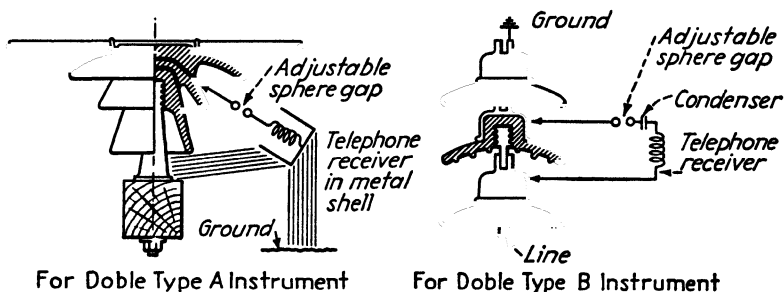

FIG. 21-11. Electrical circuit for Doble type A and type B testing instruments. (Courtesy Oregon State Engineering Experiment Station, Reprint Series No. 1.)
**Principle of Operation.** Testing by this method also consists in measuring the voltage across each shell of a pin insulator or across the individual units of a suspension string. The electrical circuit for this purpose is made up of an air gap connected in series with a resonated circuit. Figure 21-11 shows the circuit for both the pin-type insulator
The head contains the electrical circuit shown in Fig. 21-11. The spark gap is adjustable as in the pin-type tester. The sound produced